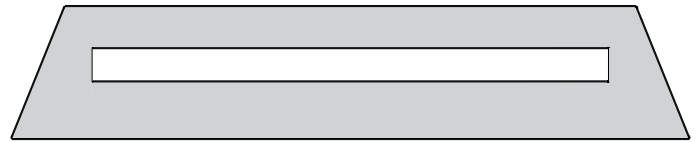

Figure 54
1. Apply the crushed glass to the shaded area only. See Figure 54. Use enough to cover the floor of the fireplace, but do not allow the media to reach higher than the flange surrounding the burner. Never place decorative media inside the flange surrounding the burner itself.